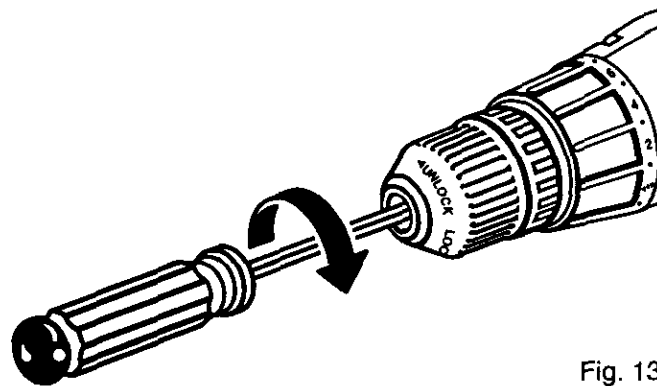

Fig. 13
- Tap the hex key wrench sharply with a mallet in a clockwise direction. See Figure 13. This will loosen the screw in the chuck for easy removal.
- Open chuck jaws and remove hex key wrench. Remove the chuck screw by turning it in a clockwise direction. See Figure 13.